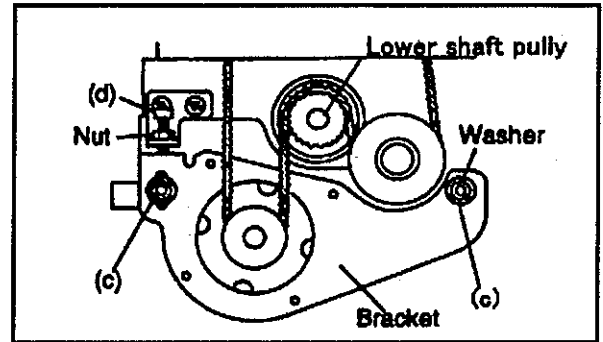

FIG.2
- (5) Remove two retaining screws (c) (Fig.2).
- (6) Loosen the nut and retaining screw (d), and remove the bracket.
- (3) Rotate the lower shaft pulley forward to align the timing mark on the thread trimming cam with the mark on the base block (Figs.2 and 5). Rotate the upper shaft pulley forward to bring the needle bar to the lowest center point (Fig.1).